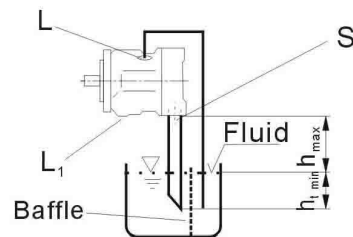

Fig. 4
b) If the minimum fluid level is equal to or below the top of the pump, pipe ports "L" and possibly "S" as Fig. 4.; close port "L₁".
a) When mounting above the reservoir, see fig. 4. Conditions according to 1.2.1.